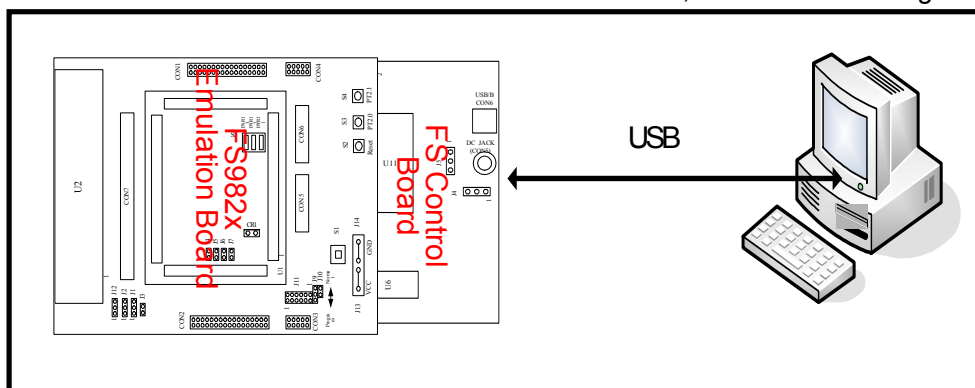

Figure 1.1 Overview of FS Control Board and FS982X Emulation Board
- **Hardware : FS Control Board 、FS982X Emulation Board**, as shown in the Figure1.1.